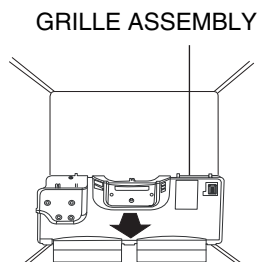

Figure 4
1. Pull out the grille assembly. (Figure 4)